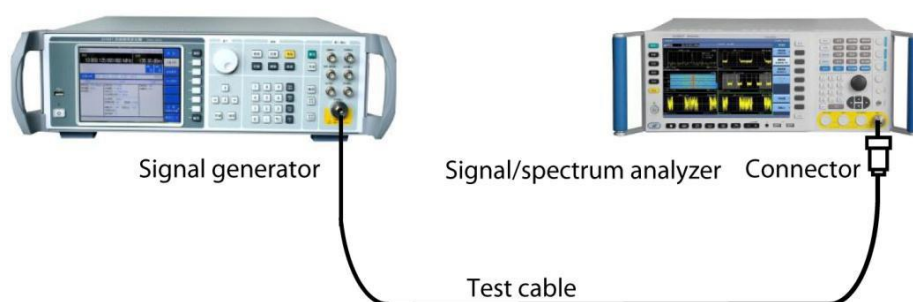

Fig 4.65 Connection settings of adjacent channel power measurement
Step 2: Connect the radio frequency output port of the signal source to that of the analyzer. As shown in Fig. 4.65: